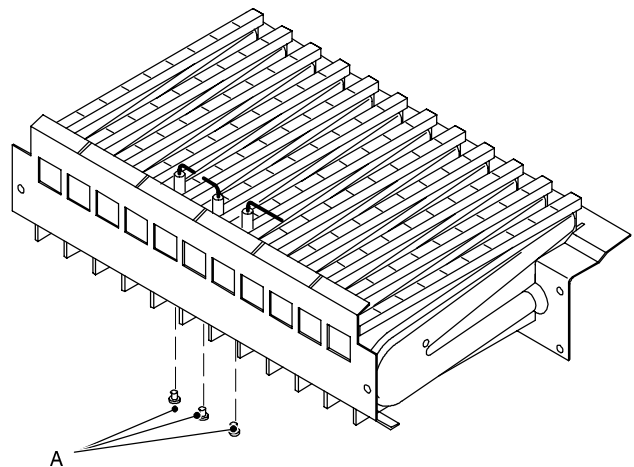

fig. 78
- 4 Unscrew the screws A (fig. 78) which hold the electrodes to the burner.